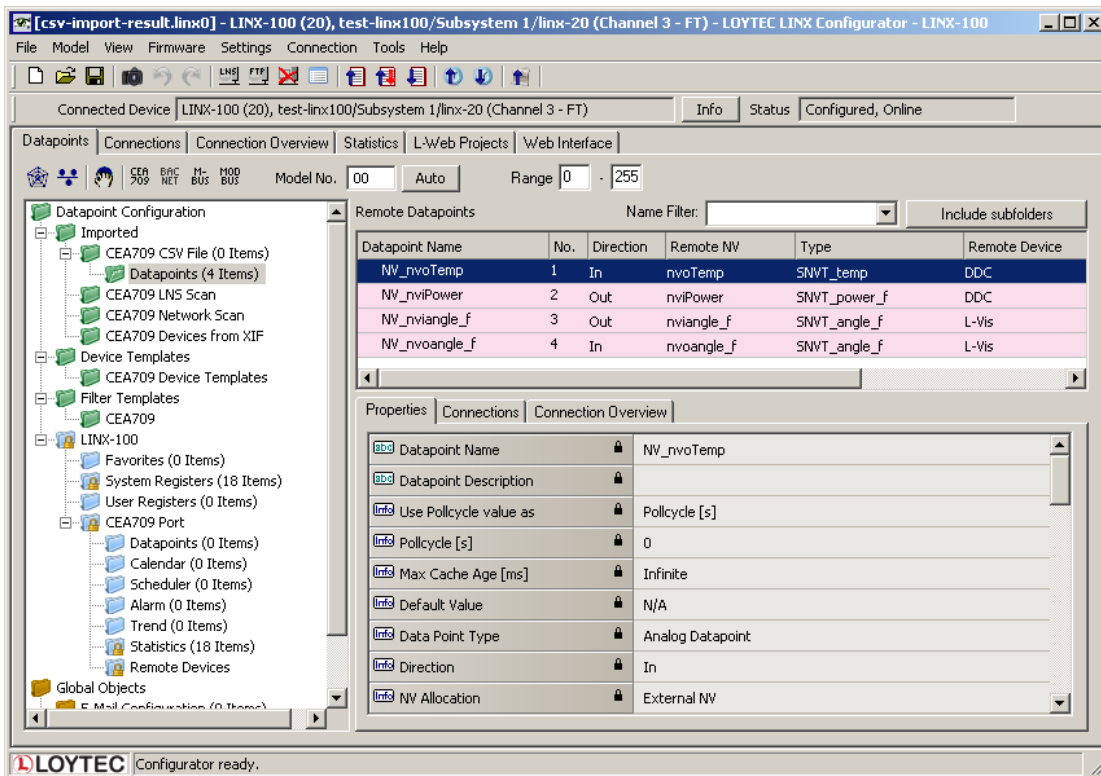

Figure 104: Imported NVs.
- Now the CSV File folder is populated with the imported NVs as shown in Figure 104.